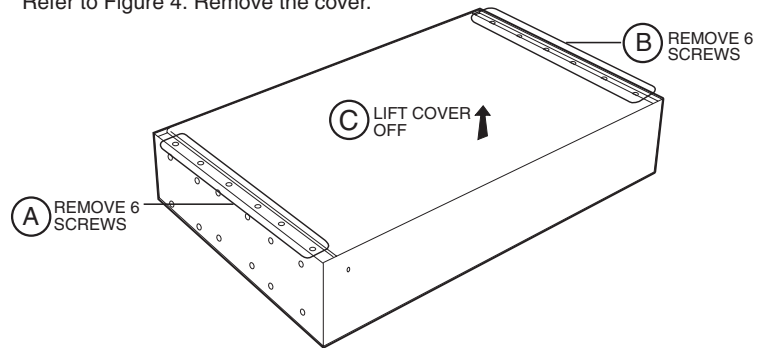

Figure 4. Cover Removal
1. Refer to Figure 4. Remove the cover.